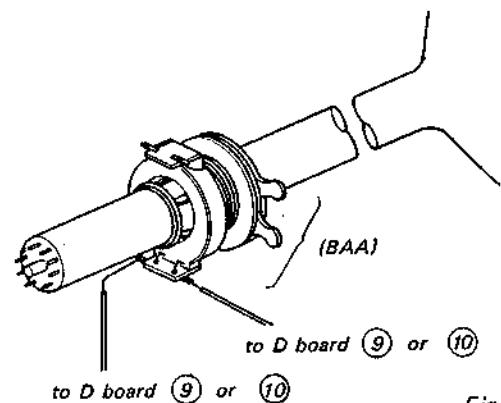

Fig. 4-12.
1. Remove the jumper which is connected between terminals ⑨ and ⑩ on D board.
2. Connect a lead to each terminal ⑨ and ⑩.
3. Connect each lead which is connected to terminals ⑨ and ⑩ to terminal of beam alignment coil BAA as shown in Fig. 4-12.